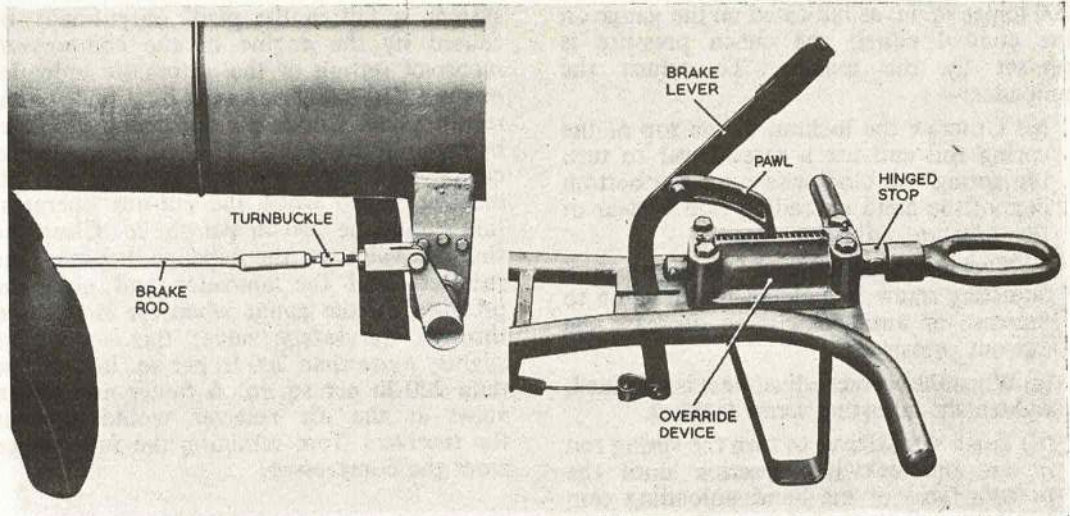

Fig. 18. BRAKE ADJUSTMENT
38. **Adjusting the Brakes.** To adjust the override and parking brakes (Fig. 18):—